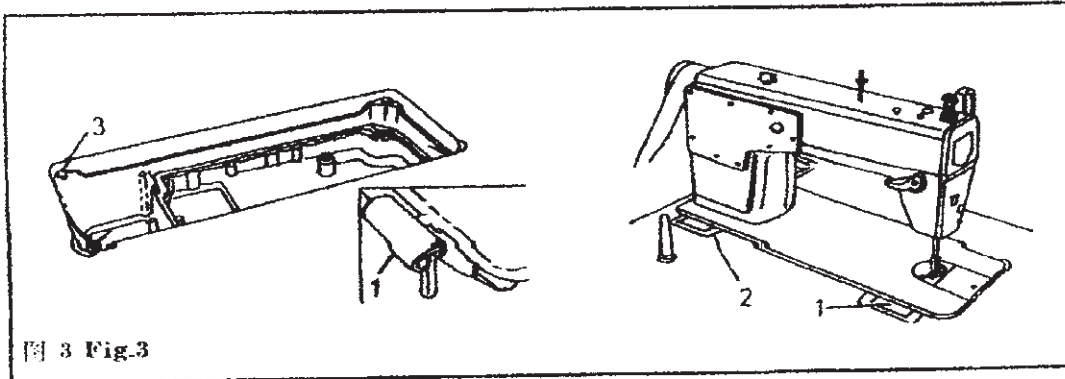

图 3 Fig.3
将机头连接钩 1 插入机壳底板孔内, 与台板上的机头连接钩座 2 相嵌合, 再将机头放到四只角的机头座垫 3 上。(图 3)
Put the machine head connecting hooks (1) into the bed holes to engage respectively two hinges (2) stated in the table, then place the machine on the four cushions (3). (Fig.3)